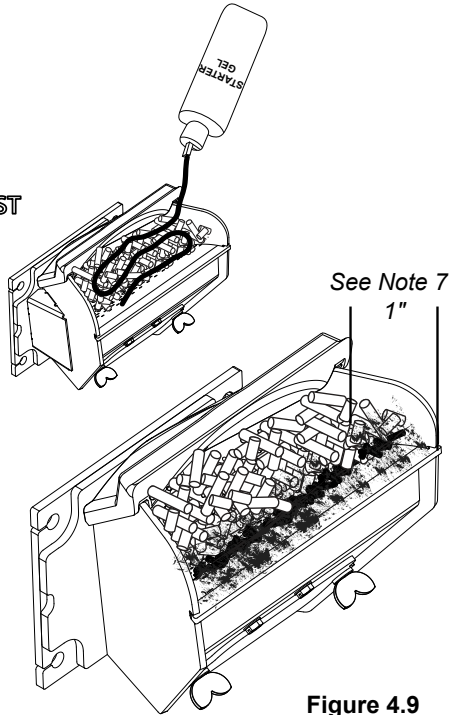

Figure 4.9
5. **Setting the feed limit # for maximum burn:** With the unit burning in "AUTO", turn to "Stove Mode" and put the fan on "H". Set the Temperature Dial to #7. Allow the unit to burn for about 30 minutes and check ash on front of burn pot. Figure 4.9. If the ash line is larger than 1", turn the feed limit from #4 to #5. Allow another 30 minutes of burn time and check again. If, at #6 setting, a 1" or less ash bed is not obtainable, it is not a problem. The 1" ash bed is only at maximum burn rate and during normal operation, the ash bed will be larger.